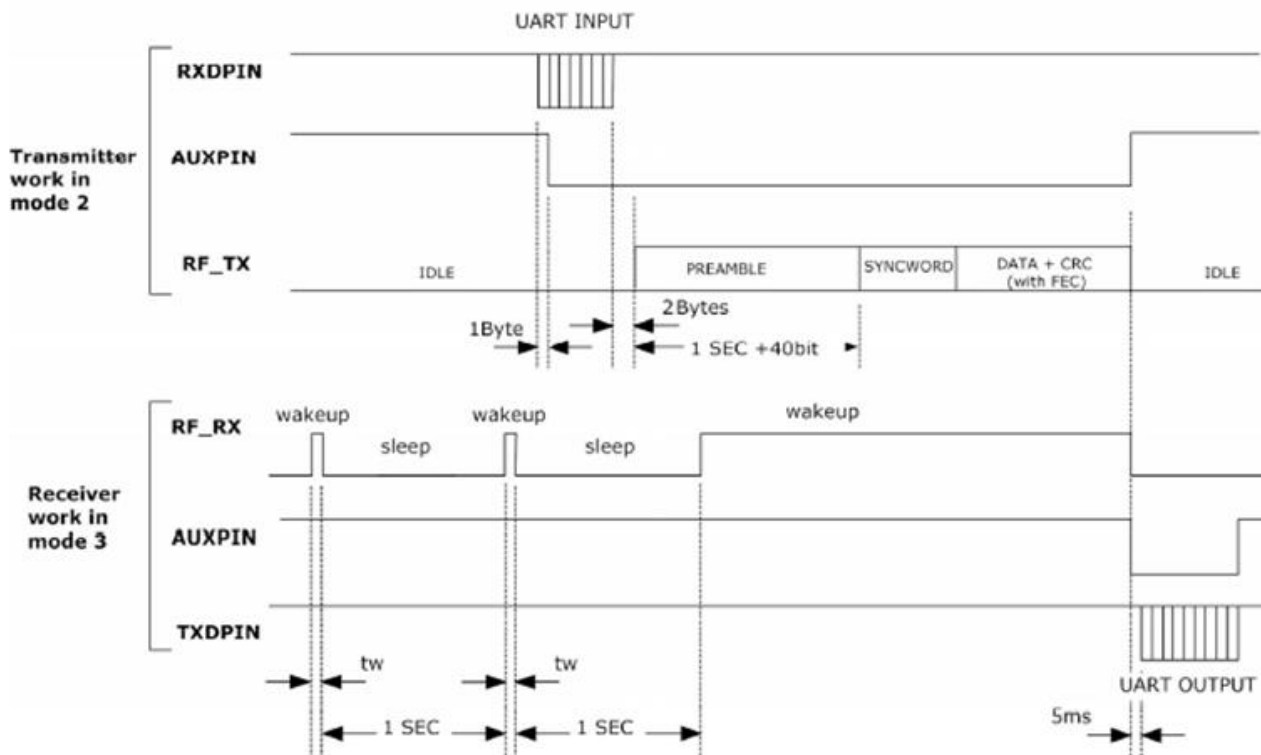

Figure 4 Schematic diagram for transmitter in Mode 2, while receiver in Mode 3
The preamble code is "1010" alternating code, which is used to synchronize the clock of the receiver with the transmitter. In normal mode, the length of the preamble code is generally 40 bits. If working in the power saving mode, the preamble also has the function of waking up the receiver. At this time, the transmitter must send a longer preamble to wake up the receiver in the power saving mode into a normal working state. If the receiver is set to wake up once per second, then the receiver will wake up once every 1 second to search for the preamble (tw), the duration is generally 16bit. The transmitter first transmits the preamble for more than 1 second and then the subsequent synchronization code, which means that the receiver can successfully detect and wake up the receiver under normal circumstances as long as the preamble is found in the channel during the wake-up period. The schematic diagram is shown in Figure 4.
- A) Transmit: when the first byte is input to the RXD pin of the module, the module sets AUX low and begins to analyze the level of SET\_B. After receiving the last byte, the RXD pin waits for 2-3Bytes time. If there is no data input, the module sets high AUX pin and switch to the transmission state, and then send a preamble code (such as 1 second) as a wake-up cycle, plus 40bit and synchronization code, etc. After transmission finished, it will shift into the corresponding state, according to the level of SET\_A and SET\_B; see the transmission diagram shown in Figure 4. In this mode, the module sends a long preamble in data transmission, so all the receivers in Mode 1, Mode 2 or Mode 3 can receive the data.
(3) Power Saving Mode (MODE 3): SET\_A = 1, SET\_B = 0
After the serial port output is completed, close the serial port and set AUX high. If the mode setting is not changed, it will immediately enter the power saving state again and wait for the next wake-up cycle. The receiving schematic diagram of this mode is shown in Figure 4.